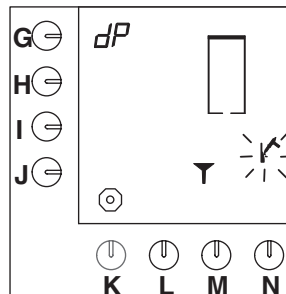

Fig. 23 Hot water system asks for descaler
- A signal sounds, the hammer symbol flashes and a funnel appears on the display (fig.23).